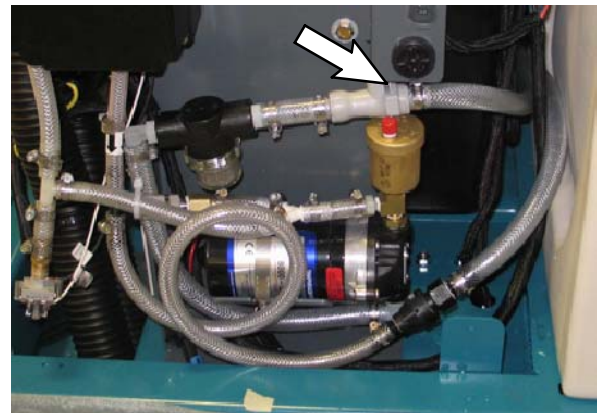

FIG. 23
34. Connect solution supply hose (SUP) to the *ec-H2O* assembly inlet hose. Refer to Fig. 23.